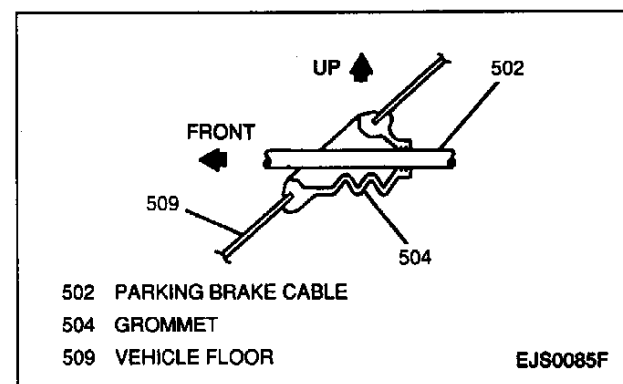

Figure 8—Parking Brake Cable Grommet
11. Parking brake cable and grommet from floor (Figure 8).